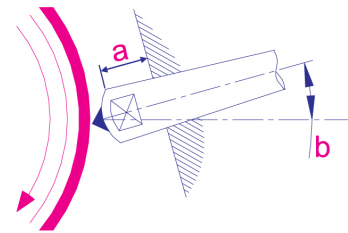

Fig: 1
- 👉 Select the clamping length 'a'(Distance from diamond point to Fixture) as short as possible to reduce the vibration. (Fig: 1)